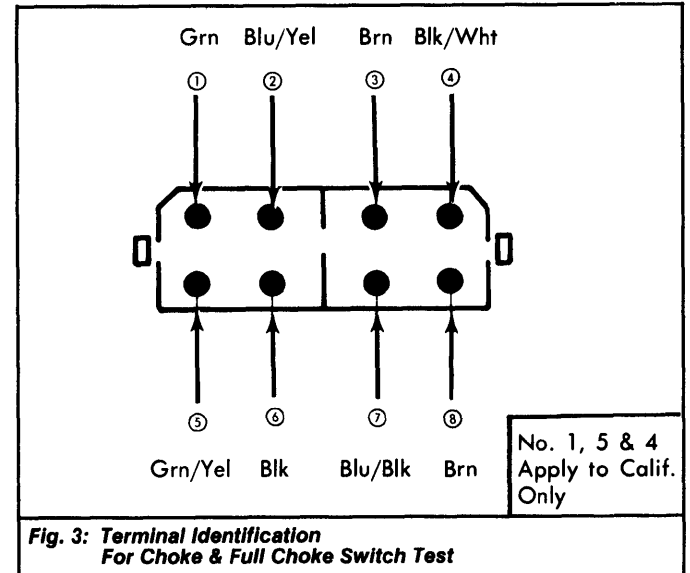

Fig. 3: Terminal Identification For Choke & Full Choke Switch Test
Disconnect choke switch. Check continuity between numbered terminals. See Fig. 3. Continuity should exist between terminals No. 3 and 7 when choke knob is pulled out about 0.4" (10 mm).
**California Models** - Disconnect choke switch. Check continuity between numbered terminals. See Fig. 3. Continuity should exist between terminals No. 4 and 5 when choke knob is pulled out about 1" (25 mm).